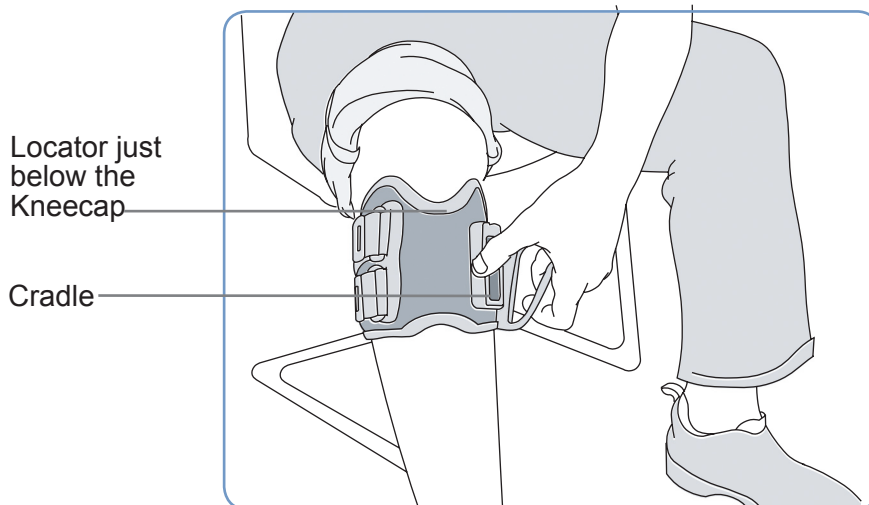

Figure 7: Fastening the Strap
3. To fasten the Orthosis strap, grasp the handle of the elastic strap with the fingers of the *opposite* hand (see Figure 7), then hook your thumb around the cradle in order to hold the Orthosis in place while you pull the handle around the cradle.